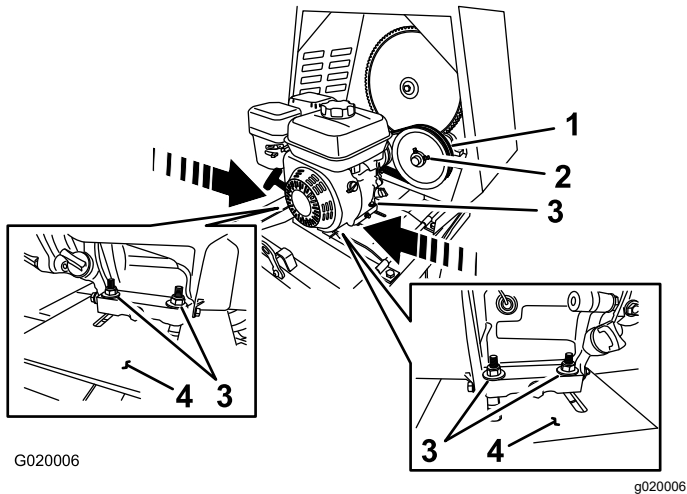

Figure 62
- B. Loosen the nuts and bolts that secure the engine to the engine deck (Figure 62).
- **Increase the air gap**—move the engine **away** from the idler pulley (Figure 62).
- **Decrease the air gap**—move the engine **toward** the idler pulley (Figure 62).